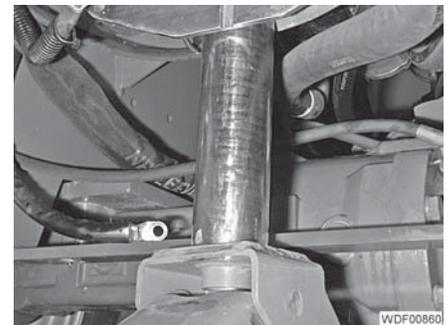

Fig. 24 Clutch bell support
- Using a suitable tool (e.g. a jack) support the clutch bell or carefully raise it up slightly (Fig. 24).